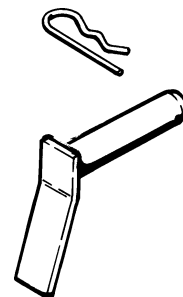

Fig.6-6 Securing platform elements
7. Secure the platform pins by means of "hairpins". See fig.6-6.